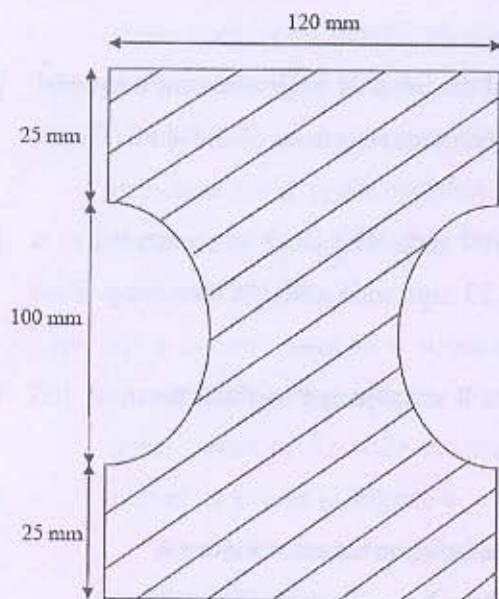

Figure 2
- (b)** **Figure 2** shows the cross-section of a cast iron beam. Determine the moment of inertia of the section about vertical axes (I_{yy}) passing through the centroid of the section. [05]